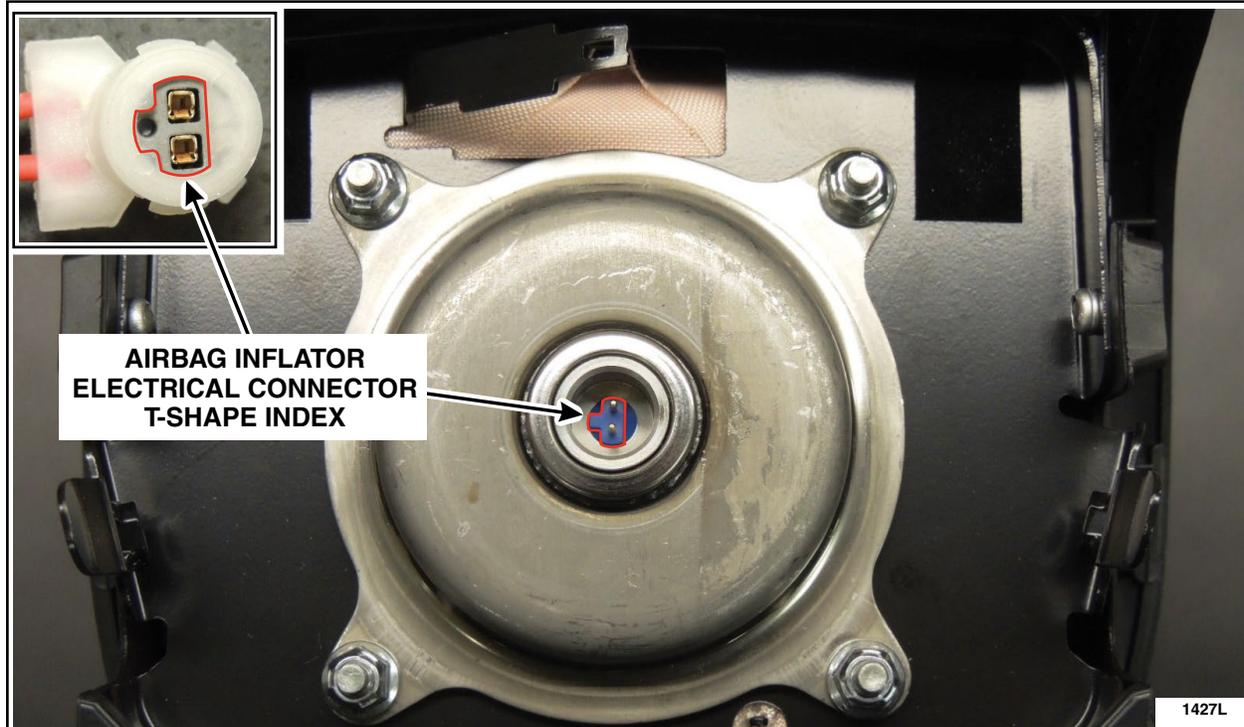

FIGURE 3
8. **NOTE:** Line up the T-shape index on both the wiring harness electrical connector and the airbag inflator. Pull gently on the wiring harness to ensure it is properly seated. See Figure 3.